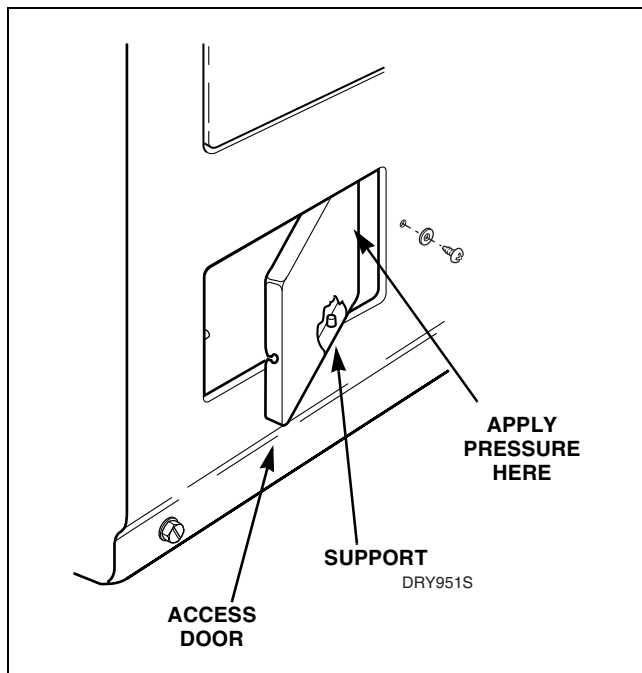
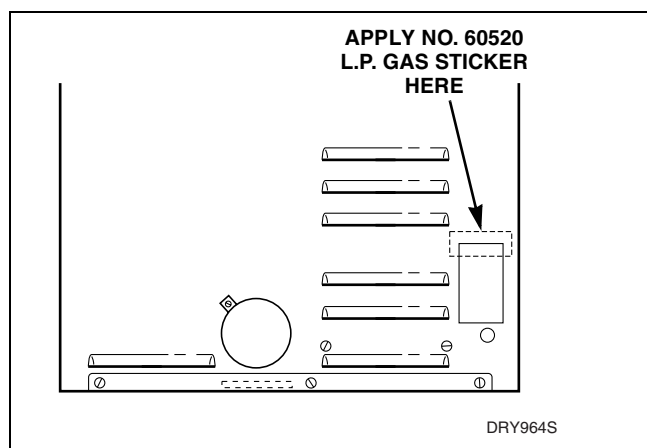

Figure 40
Figure 42
- Apply thumb pressure to the right side of access door. Refer to *Figure 40*. When door opens, move door to the left to disengage from door supports.
- Sign and date each of the two No. 60520 L.P. Gas Stickers. Install one of the No. 60520 L.P. Gas Stickers over the top three lines of the old sticker on rear of cabinet. Refer to *Figure 42*. Then place the second sticker over the top three lines of the old sticker located on backside of access door. Refer to *Figure 40*.